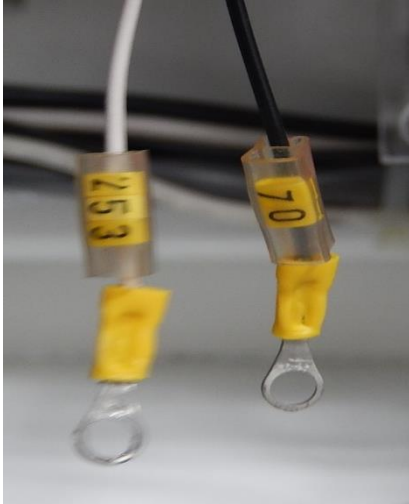

Figure 13: Existing Analog Terminals
6.4.7 **Remove** existing connectors from analog input conductors (for MC1: 253 & 70; for MC11 255 & 70) and replace with Ferrules (7950K15). See *Figures 13 & 14* below.